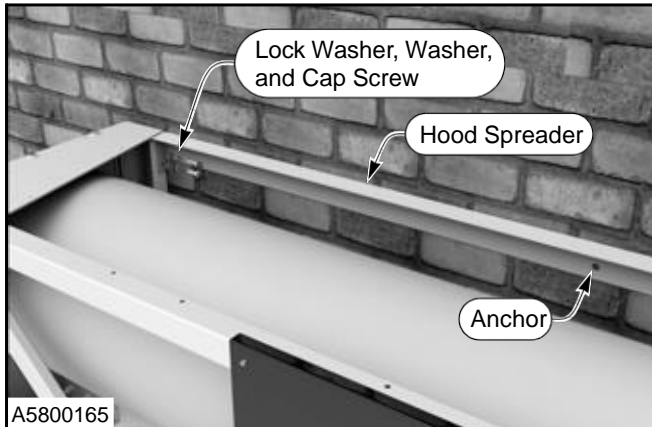

Figure 35
2. Anchor hood spreader to wall. (See Figure 35)